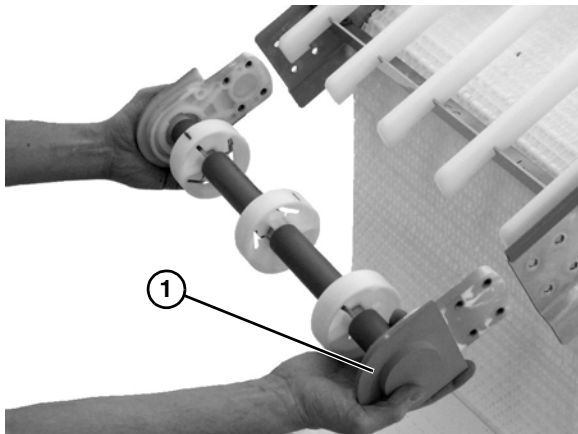

Figure 43
3. Remove idler tail assembly (Figure 43, item 1).